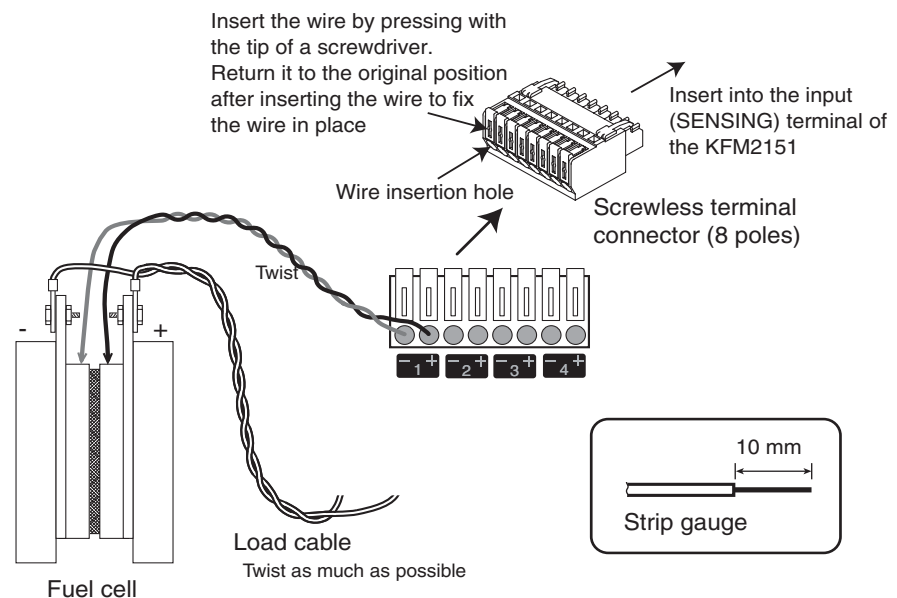

Fig.2-9 Connection to the fuel cell
Use AWG24 wires. The recommended amount of covering to be stripped is approximately 10 mm. Using the strip gauge shown in Fig.2-9 will ensure proper work.
- Using a screwdriver, insert the wire into the screwless terminal connector (8 poles) provided as shown in Fig.2-9.